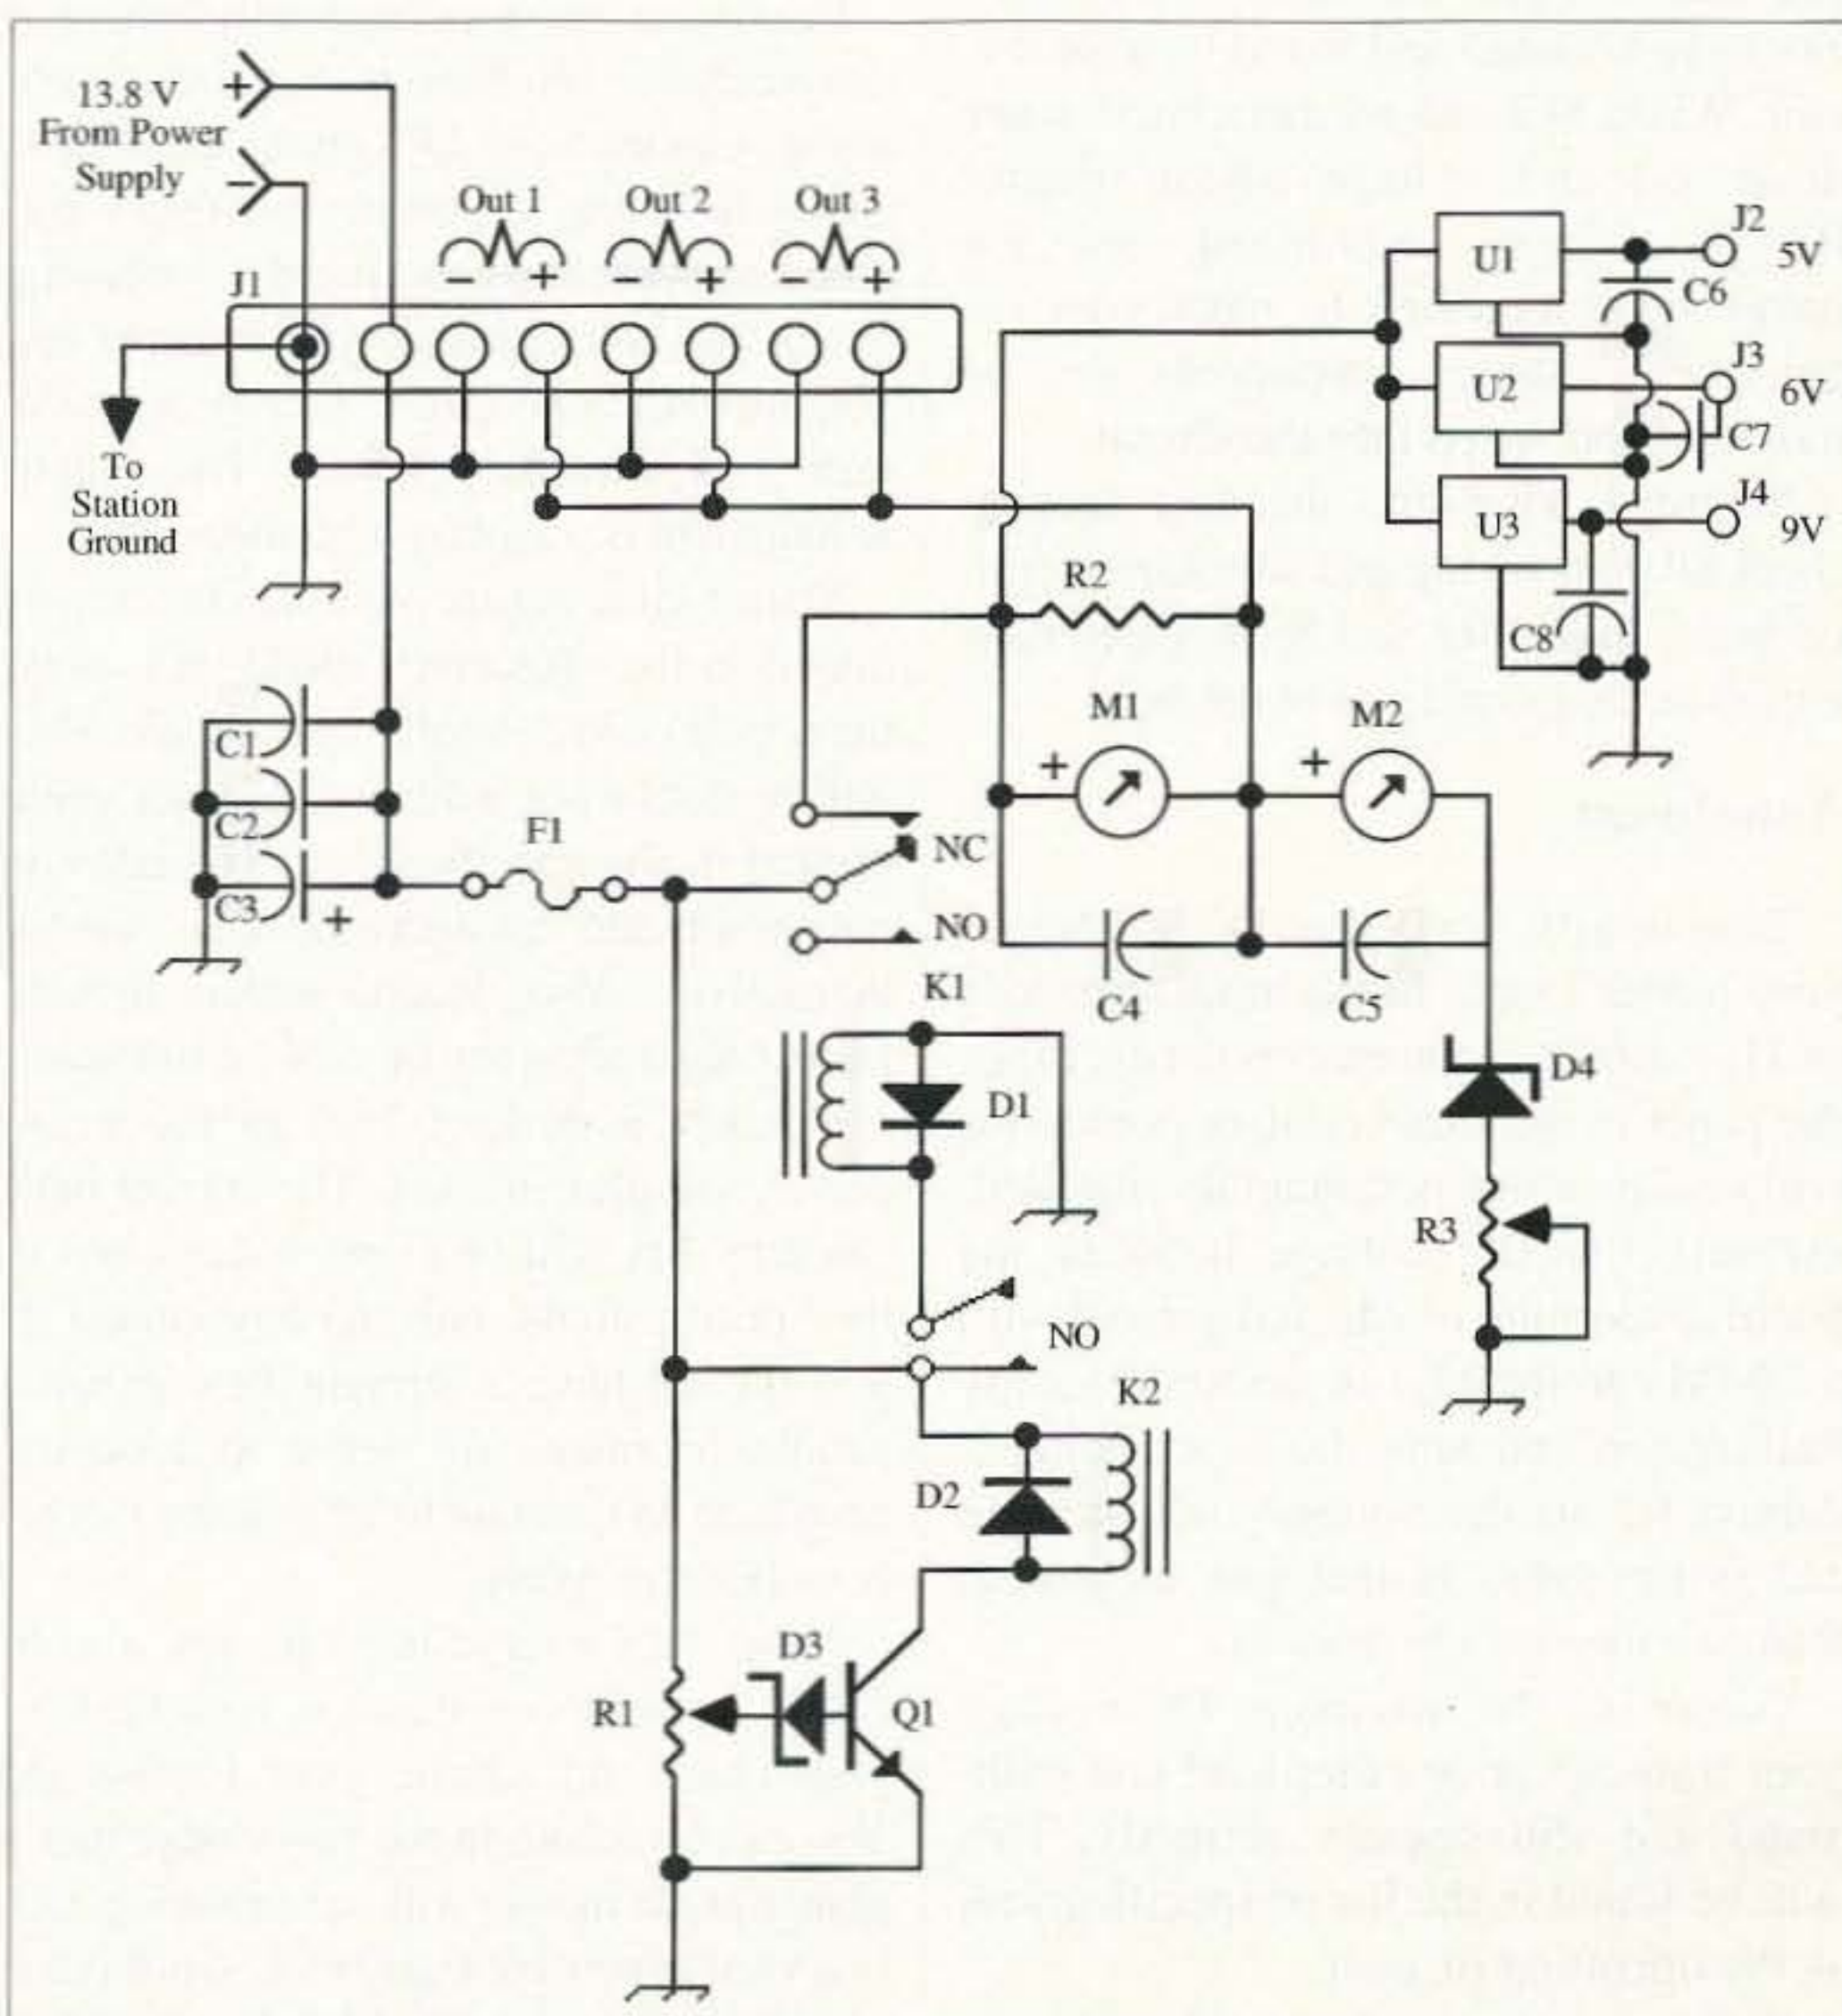
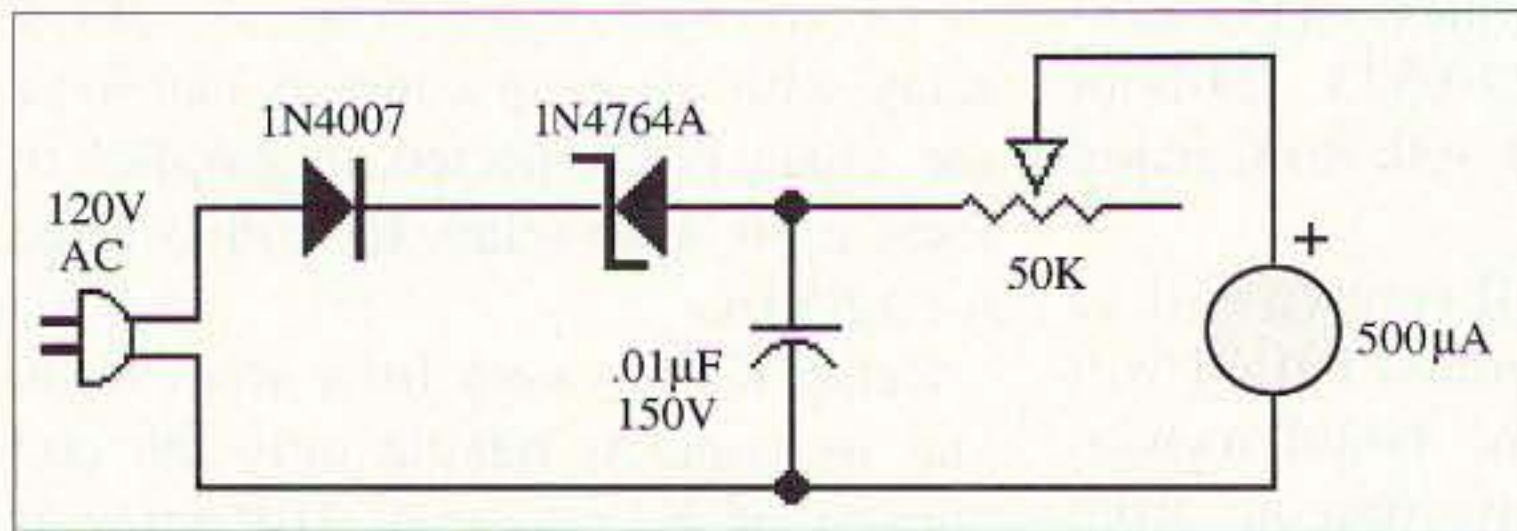

Fig. 1. Schematic diagram of the power monitor/distribution panel. Relays shown not energized.
Fig. 2. AC line voltage monitor (optional).
**Fig. 1** illustrates the schematic diagram of this panel. Aside from its primary functions of monitoring, distributing, and automatically disconnecting power from the load(s), should the voltage soar out of bounds, it includes optional but very handy outputs at the three most useful regulated voltages often needed for accessories but not directly available from the station power supply.
Although not indicated in Fig. 1, a low-cost AC line voltage monitor which indicates AC line voltage from 90 to 130 VAC is recommended if you have space (see "Line Voltage Monitor," 73, January 1996, page 86). Unfortunately, the schematic diagram was inadvertently omitted and is reproduced in Fig. 2. This will add about three or four dollars to the overall cost of the panel, and will provide a warning if the line voltage falls too low or rises too far.